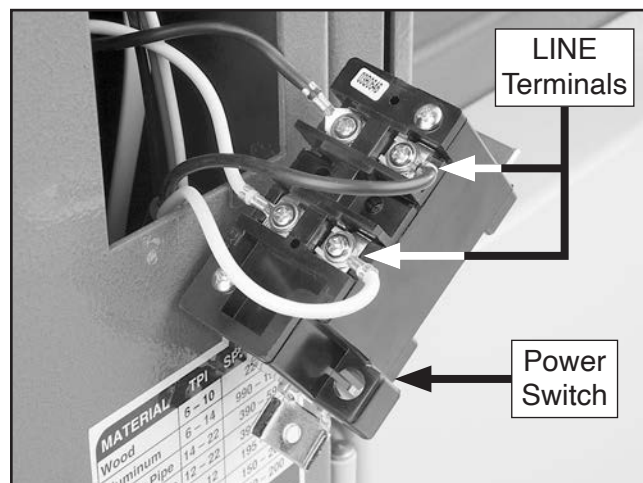

Figure 5. Location of power switch LINE terminals.
1. Connect black and white wires on one end of included 30" VFD cord to LINE power switch terminals shown in **Figure 5**.